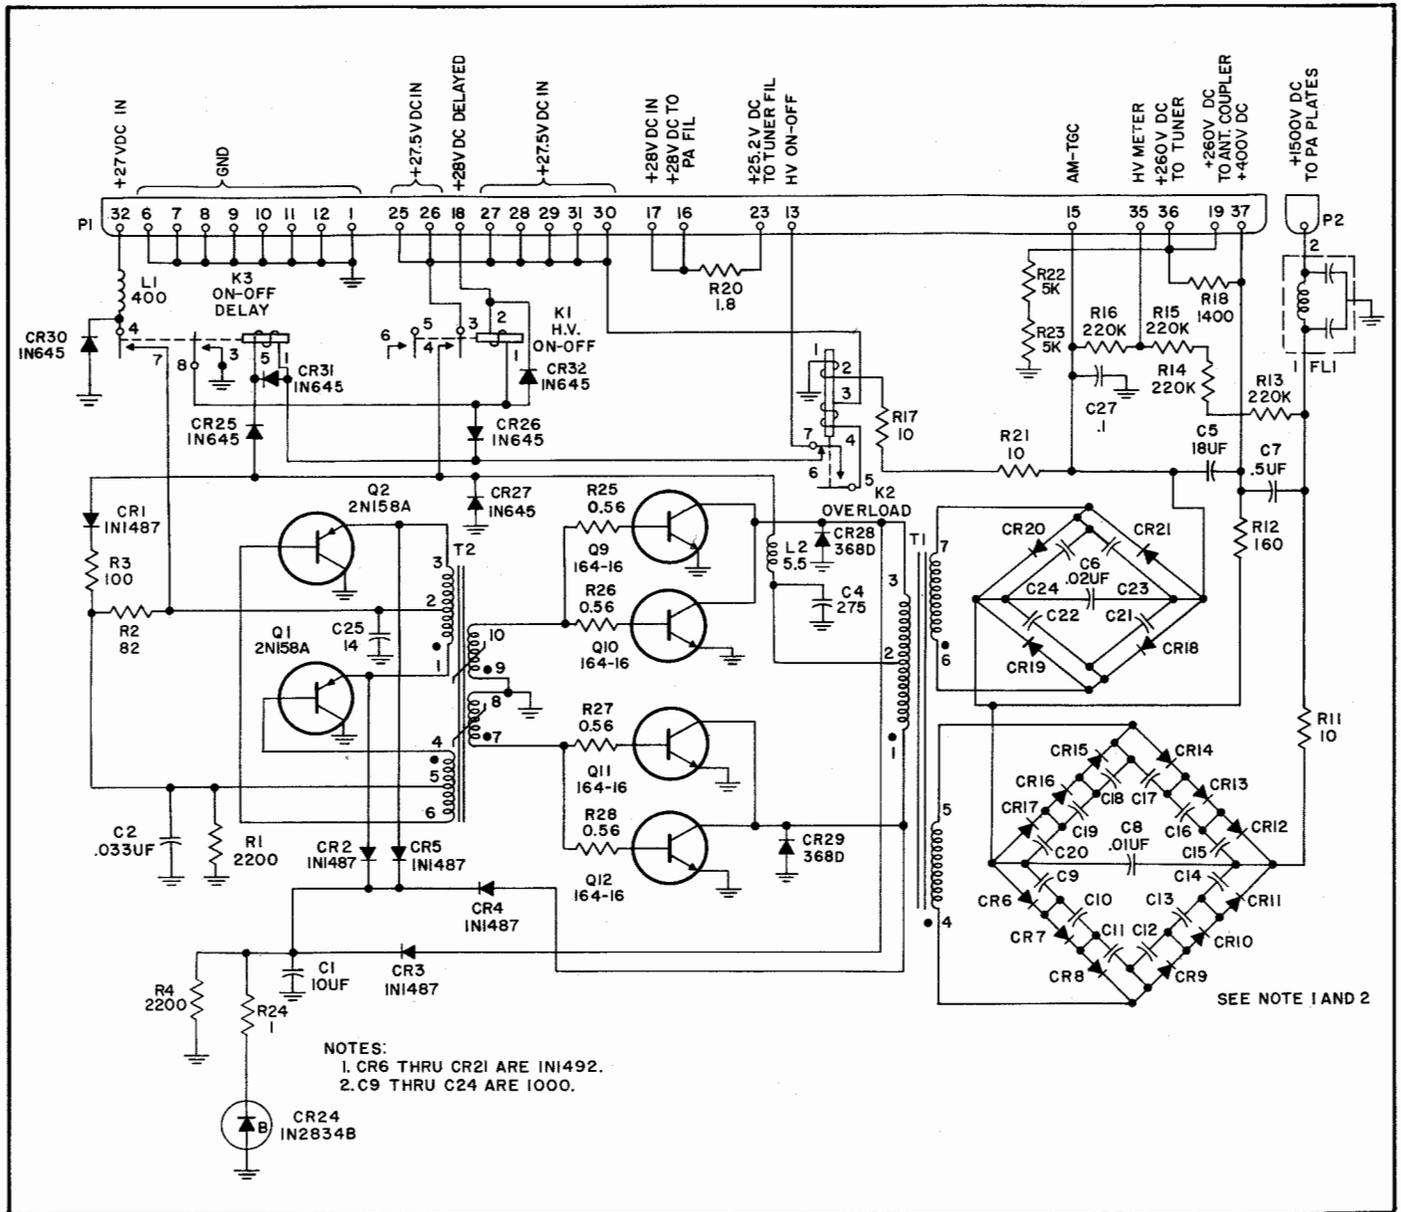

Figure 8-4. 27.5-Volt DC High-Voltage Power Supply Module A8, Schematic Diagram
this exception, no difference can be detected externally. The RT-698/ARC-102 contains a different high-voltage module that functions with 27.5-volt dc voltage as its source of power, whereas the RT-648/ARC-94 high-voltage module operates principally with 115-volt (line-to-neutral) 3-phase, 400-cps power. The 27.5-volt dc high-voltage power supply A8 is covered in this difference data. The chassis and modules of the RT-648/ARC-94 are shown in figure 1-2; however, note no. 9 does not apply. Tables V, VI, and VII are not applicable to the RT-698/ARC-102 wherever the three-phase high-voltage power supply module A7 is referenced regarding transistors, diodes, and relays. Refer to the schematic diagram, figure 8-4, for this information.
The 27.5-volt dc high-voltage power supply module A8 consists of an oscillatory circuit that inverts incoming dc to a square wave at 1500 cps. Refer to the schematic diagram in figure 8-4. A saturable core oscillator converts 27.5 volts dc to 1500 cps ac. Transistors A8Q1 and A8Q2 alternately are driven to saturation and then cut off by the action of saturable core transformer A8T2. These alternations produce a square-wave output in A8T2 secondary. The square-wave alternations switch transistor A8Q9 through A8Q12 in a push-pull power circuit delivering 400-volt, 1500-cps square-wave
Additional circuit details common to both high-voltage power supply modules are given with reference to figure 8-4, as follows:
d. Diodes perform various functions in the high voltage circuits. In figure 8-4, diodes A8CR2 through A8CR5 suppress the transients generated by the rapid collapse of the A8T2 magnetic field in the generation of square waves. These diodes then protect transistors A8Q1 and A8Q2. Diodes are used across relay contacts and windings to suppress transients which are the cause of radio frequency interference.